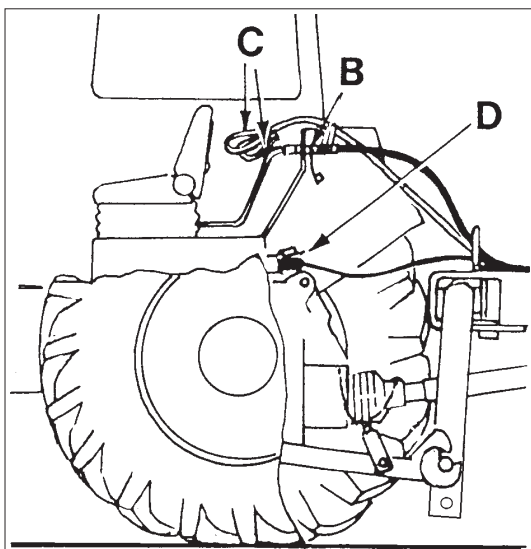

Fig. 3-4
- Connect the hydraulic system (B). Connect the hose pipes to **a single-acting control unit** (fig. 3-4). (With hydraulic swathe cloths, a double-action control unit is also required)
- Route the unlocking cables (C) for the lateral machines in the tractor cab.
- Connect up the electric system (D).